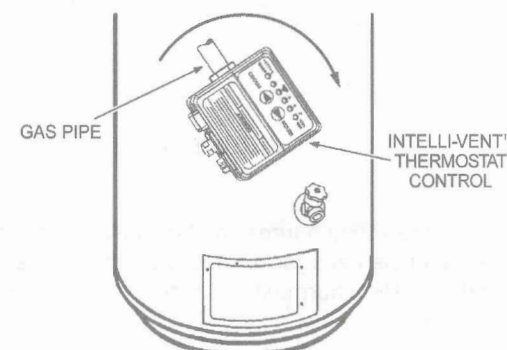

FIGURE 10.
13. Using your hand, grasp the straight pipe attached to the Intelli-vent™ Thermostat Control, (184960 Series) and rotate it clockwise until the control is tight and aligned correctly, see Figure 10.